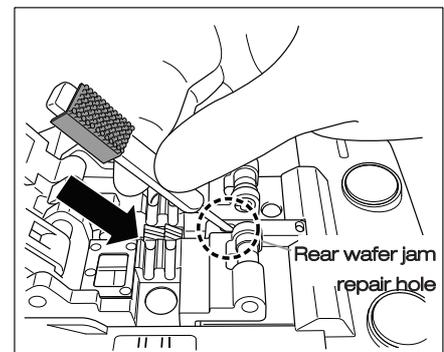

Figure 26
3. Similarly, insert the wafer jam repair tool through the rear wafer jam repair hole of the TSCD®-II and push the tool slantingly forward so that a wafer inside can be dropped into the wafer disposal box (See Figure 26).